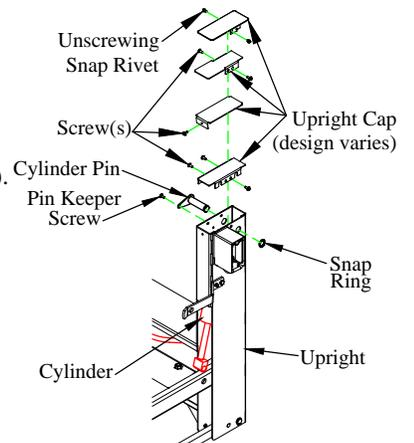

Figure 4: Upright cap and cylinder pin.
- 3. REMOVE** the upright cap screw(s) or unscrewing snap rivets from the uprights (Figure 4).
- 4. REMOVE** the upright cap (Figure 4). Upright cap design may vary.
- 5. REMOVE** the cylinder pin (Figure 4).
8. **INSTALL** the cylinder pin (Figure 4).
13. **INSTALL** the upright cap and 1/4-20 x 1/2" screw(s) or unscrewing snap rivets (Figure 4).